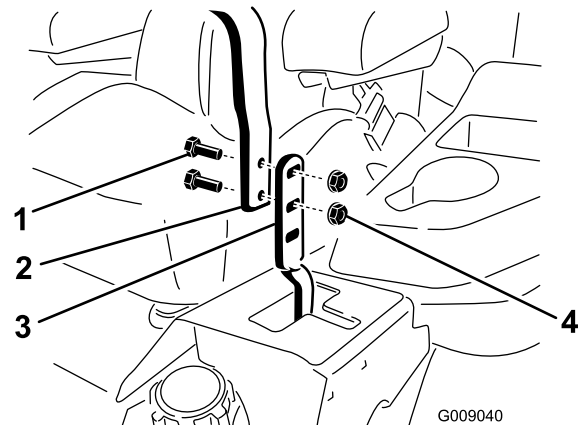

Figure 87
3. Loosen the bolts and flange nuts installed in the levers (Figure 87).